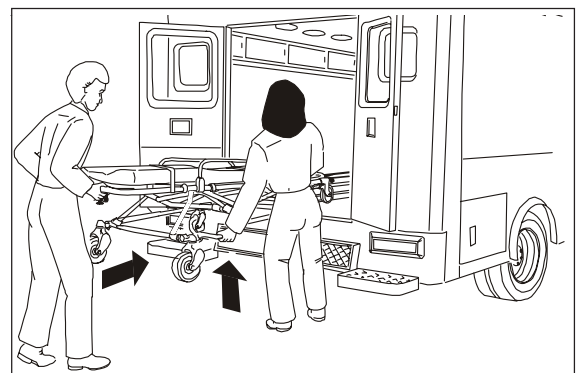

Figure 26 - Loading the Cot
7. *Both Operators:* Head-End Operator grasps undercarriage lifting grip and raises (folds) undercarriage while Foot-End Operator pushes cot into patient compartment (Figure 26), guiding the foot-end loading post into the cot fastener (see Model 185 (Stat Trac) users' manual for complete fastening instructions).